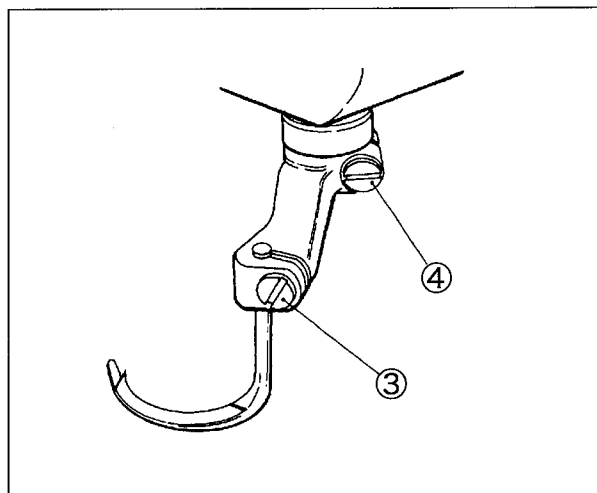

Fig. 6-11
- (1) Loosen the screws ③ and ④ of the spreader holder. (Fig. 6-11)